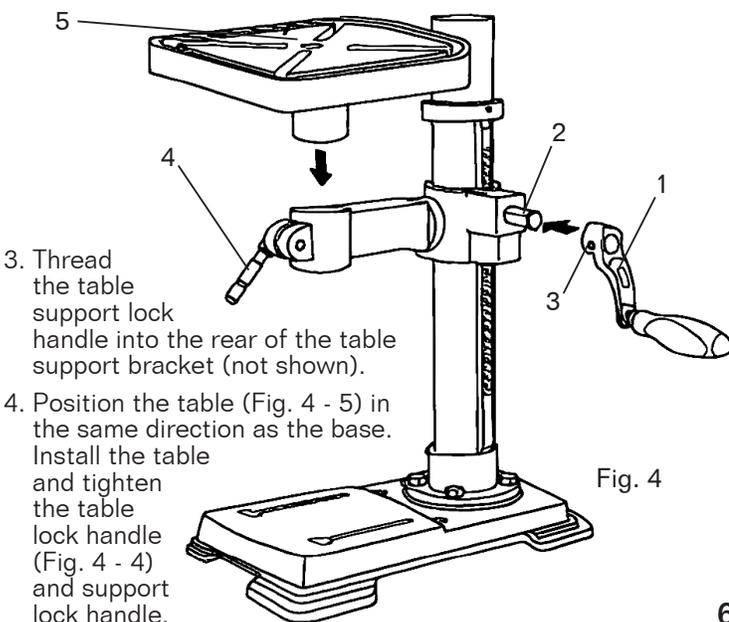

Fig. 4
TABLE TO TABLE SUPPORT BRACKET (FIG. 4)
1. Place the crank handle (Fig. 4 - 1) onto the shaft (Fig. 4 - 2) of the table bracket so the flat of the shaft is under the set screw (Fig. 4 - 3). Tighten the set screw.
2. Thread the table lock handle (Fig. 4 - 4) into the front of the table support bracket.